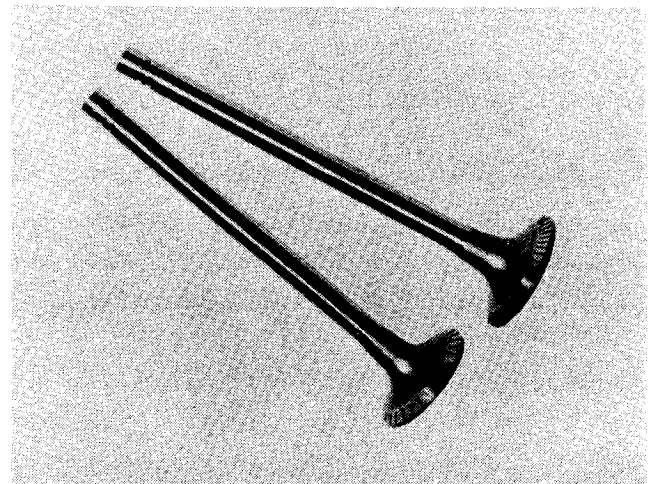

Fig. 2-17, (N20217). Pencil marks on valves
3. Pencil mark valve face as shown in Fig. 2-17, position in valve guide against a newly ground valve seat, rotate valve 10 degrees. A good seat will be indicated if all pencil marks are broken. If pencil marks are not broken, tools need dressing or machine has not been properly adjusted; final check should be made with a vacuum tester.